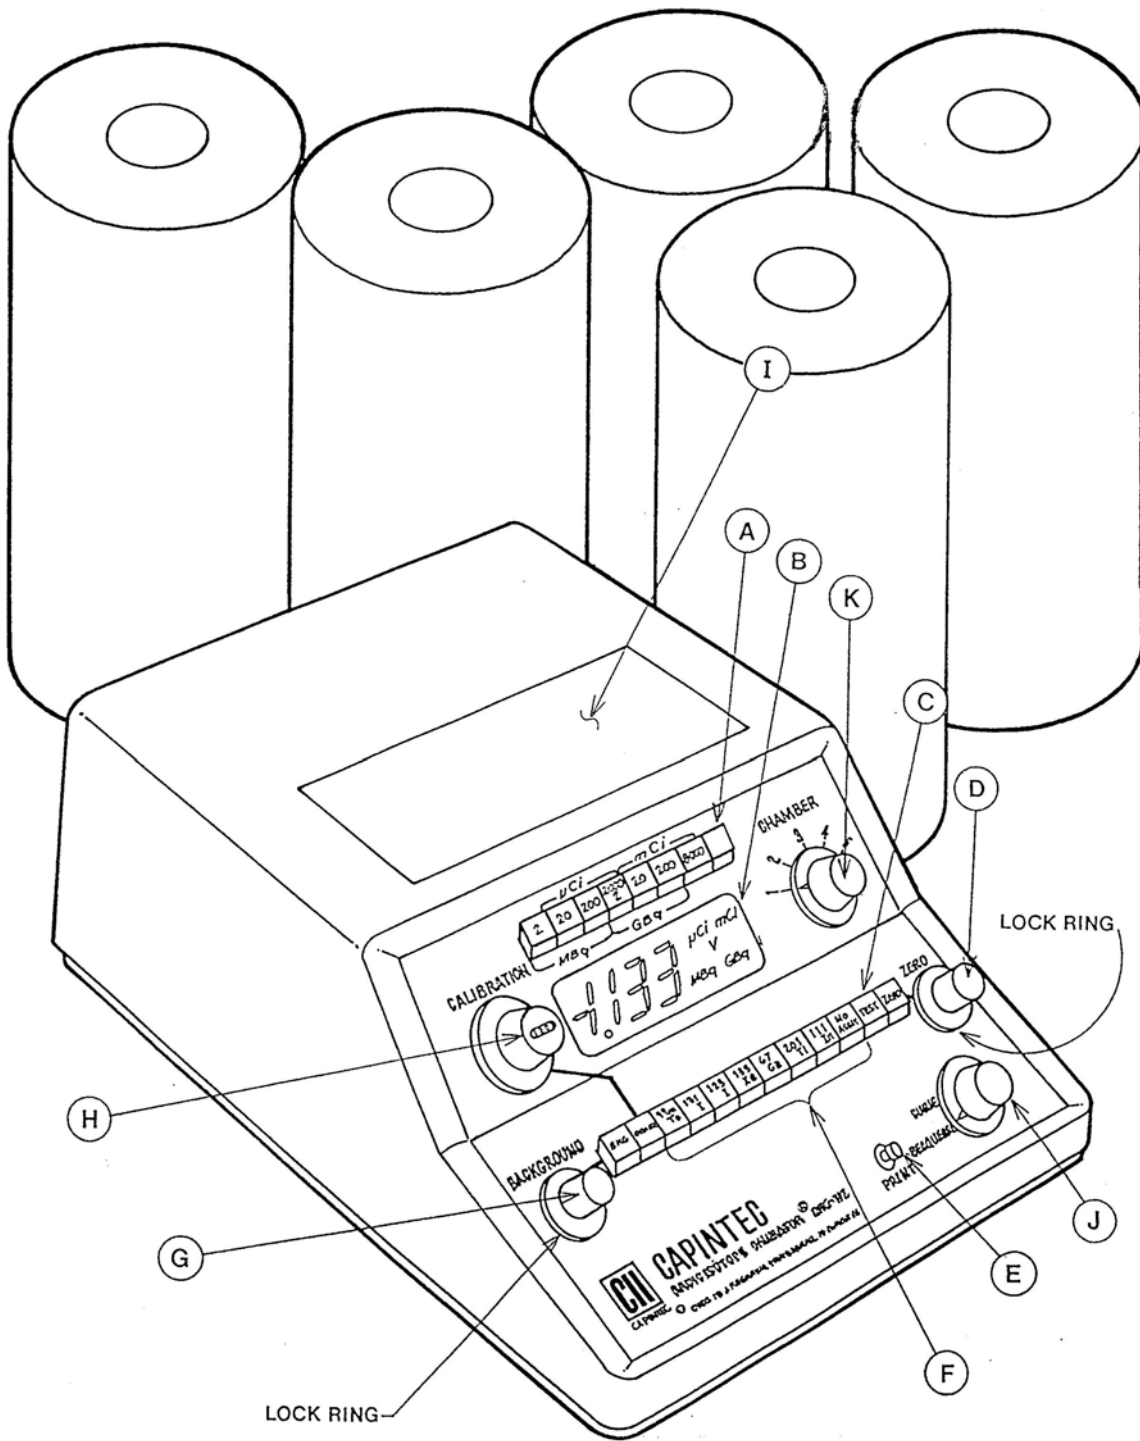

Figure 3-5 CRC-712M Front Panel
***Note:** This switch will only be found on the CRC-712M Model Calibrator. (Reference Figure 3-5 CRC-712M Front Panel)*